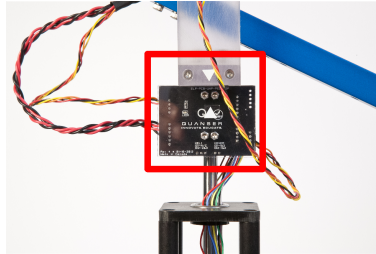

Figure 3.3: Attach the 3 DOF Helicopter arm to the pedestal.
- Using the supplied 8-32 3/4 inch brass thumb screws, attach the 3 DOF Helicopter arm on the pedestal. Make sure the two alignment arrows are facing the same side as shown in Figure 3.3.